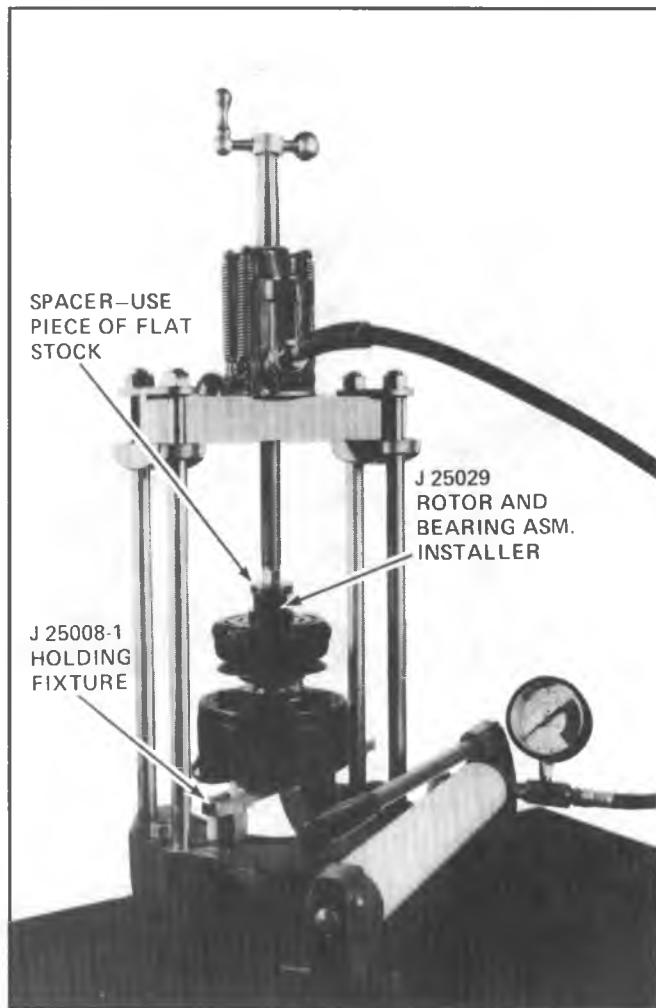

Fig. 83--Installing Rotor and Bearing Assembly
Press rotor and bearing assembly onto the front head of the compressor, using Rotor and Bearing Assembly Installer J-25029 (Fig. 83). The Installer will apply force to the inner race of the rotor bearing when installing the assembly onto the front head.
7. Tighten pulley rim mounting screws to a 100 inch pounds torque and lock screw heads in place as shown in Figure 83.
2. Place assembly on neck of front head and seat into place using rotor bearing remover and rotor assembly installer J-25029 as shown in Figure 83. Before fully seating the assembly on front head, be sure the clutch coil terminals are in the proper location in relation to compressor and that the three protrusions on the rear of the clutch coil align with the locator holes in front head.
5. Install clutch rotor and bearing assembly, clutch coil and pulley rim assembly to front head (Fig. 83). Before fully seating the assembly on front head be sure clutch coil terminals are in the proper location in relation to compressor and that the three protrusions on rear of clutch coil align with the locator holes in front head.